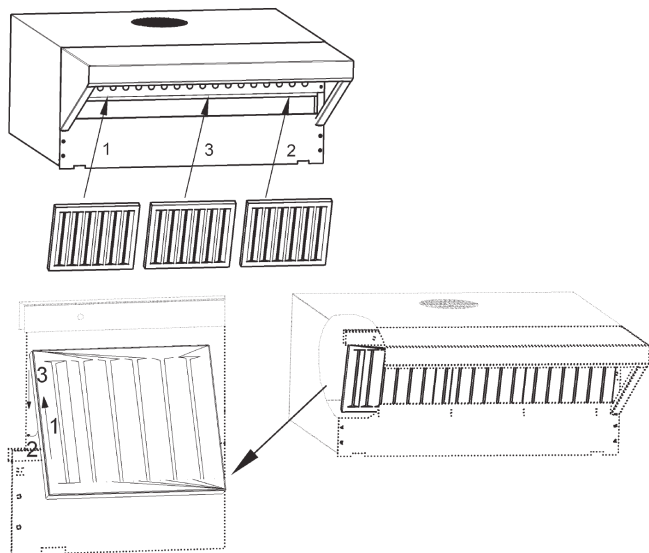

Figure 4: Grease filters in a 0610 hood
- Start with the two outer filters (they have a rim) (see fig. 4), and then insert the middle filter between them.